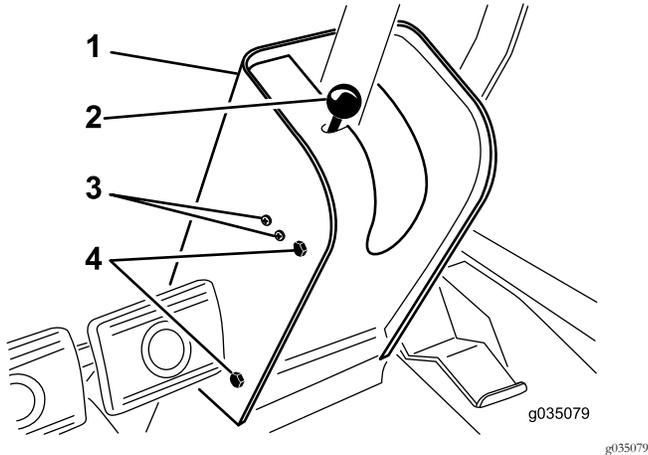

Figure 72
2. Remove the knob from the parking-brake rod and the screws from the steering-tower cover (Figure 72).
4. Loosen the screws and nuts that secure the parking brake switch to the left side of the steering tower (Figure 72).